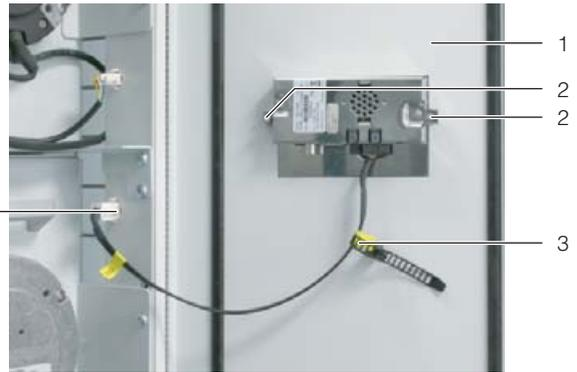

Fig. 36: Securing the graphic display
- Push the display into the cut-out from the outside until it is in contact with the door (fig. 36, item 1) of the Liquid Cooling Package at the front.
- Tighten the two assembly screws (fig. 36, item 2) from the inside.
- Connect the connection cable of the display to the corresponding socket in the Liquid Cooling Package (fig. 36, item 4).
- Attach the strain relief (fig. 36, item 3) to the connection cable to prevent accidental damage to the cable e.g. when opening the door.